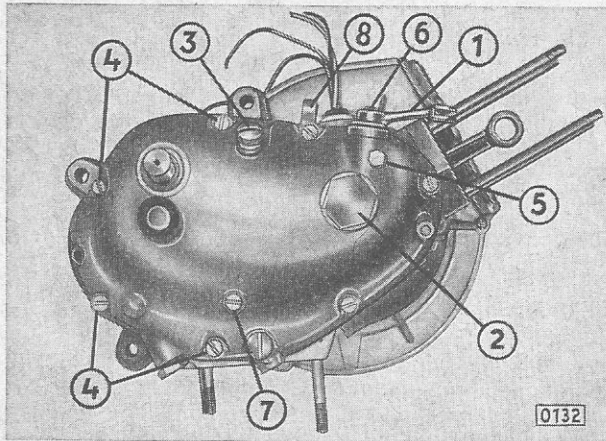

Fig. 5: Engine block from r. h. side:
6. Unhook clutch control cable: Slacken counter nut of adjusting sleeve screw on engine crankcase cover eye (fig. 5/8), pull cable. Turn declutching lever in direction into which motorcycle moves (fig. 5/1) detach cable. Do not lose slotted nipple holder: Take down slotted counter nut and pull cable cut of adjusting sleeve (fig. 5/8).
1. Unscrew centering screw (fig. 5/2, guide for clutch bearing nut).
2. Unscrew crankcase cover retaining screws (fig. 5/5) — 7 screws — loosen cover by means of rubber mallet and raise cover. Turn clutch release lever until the shaft passes the ball nut (fig. 5/1), lift cover clear and slip thrust washer from starter shaft.
3. The clutch release shaft cannot be pulled off before the crankcase cover has been lifted. Unscrew fixing bolt (fig. 5/5) of clutch release shaft. Remove clutch release shaft (fig. 5/6) together with the clutch release lever (fig. 5/1).